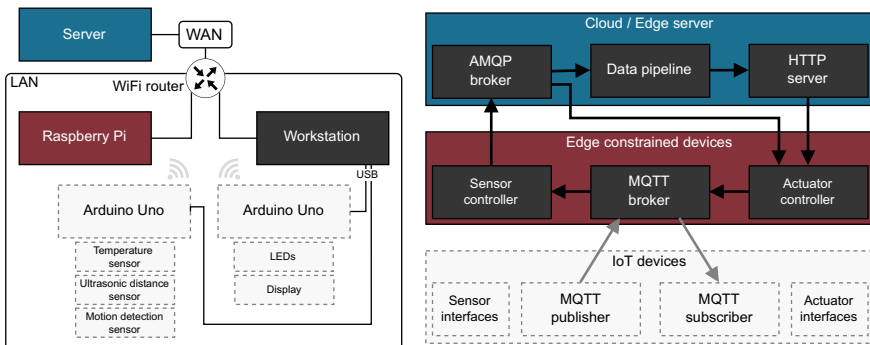

Fig. 8.1 Lab 5 setup
In this lab, we implement *data connectors* between various parts of the system, such that data can be forwarded end-to-end, from IoT devices to cloud tools. The setup for this lab is shown in Fig. 8.1, and it includes Raspberry Pi, WiFi router, workstation, and server. To enable data exchange between the different components, we make use of three different connectors: (1) *sensor controller* (MQTT-to-AMQP brokers), to forward the sensor data coming from MQTT broker running on Raspberry Pi to RabbitMQ running on the server, (2) *Data pipeline* (AMQP broker-to-HTTP server), to index the data received from AMQP broker into the Elasticsearch database, both running on the server, and (3) *actuator controller* (HTTP server/AMQP broker-to-MQTT broker), to forward data from RabbitMQ and Elasticsearch to the MQTT broker.